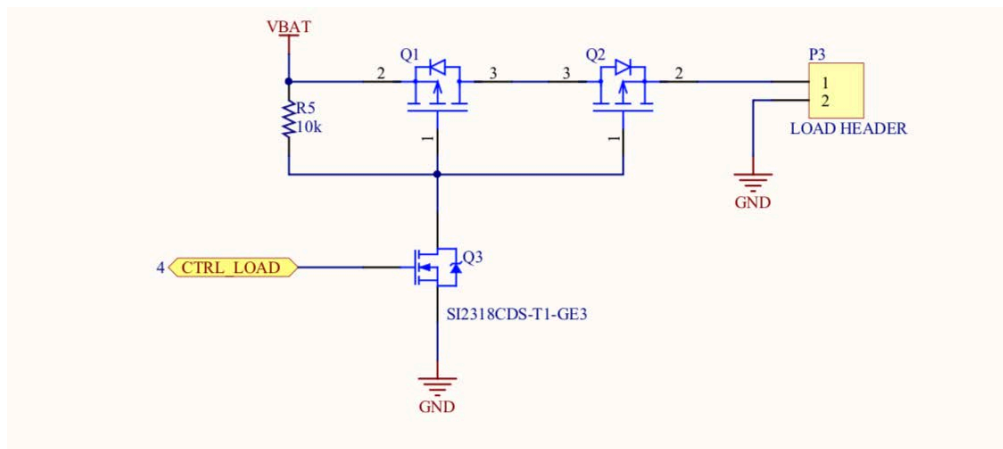

Figure7: DC load control circuit
7. Figure 7: DC Load Control circuit
The DC load controller regulates the charge voltage from the solar system to the battery, as shown in figure 7. During the ON state when CTRL_LOAD logic = 1, no current flows through the third mosfit (Q_3). So, it will close, and since the first mosfit (Q_1) and the second mosfit (Q_2) are connected to Q_3 they will close too, and V_{BAT} come to output header on default state, Q_1 and Q_2 open because G pin of Q_1 and Q_2 is pulled up to V_{BAT} , and during the OFF state when CTRL_LOAD logic = 0, the current complete its path through Q_3 , Q_2 , and Q_1 so the circuit will open and V_{BAT} will come to output header on default state.